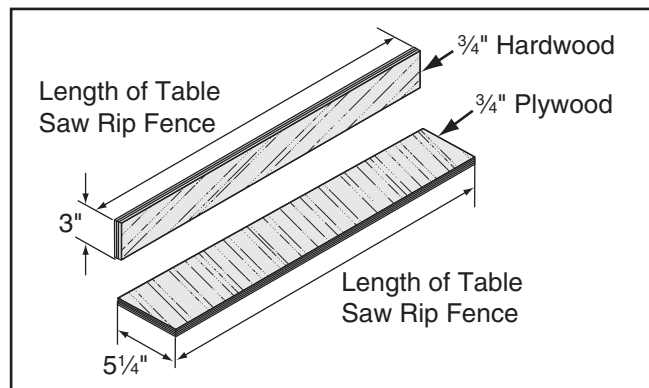

Figure 129. Auxiliary fence dimensions.
1. Cut a piece of $\frac{1}{2}$ " thick plywood $5\frac{1}{4}$ " wide and as long as your table saw rip fence; cut a piece of $\frac{3}{4}$ " thick hardwood 3" wide and as long as your table saw rip fence (see **Figure 129**).